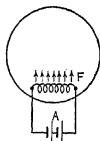

FIG. 170. Electrons are boiled off the surface of a heated filament.
93. The Two-Electrode Vacuum Tube. When one of these electrical conductors such as a tungsten wire is heated, electrons boil off its surface much as steam boils from the surface of hot water. In the latter case, if the receptacle containing the hot water is entirely closed so that none of the steam can escape, the particles will have to return to the water. If, on the other hand, a pipe allows the particles of steam to escape from the chamber as fast as they are boiled off, a current of steam continually flows from the surface of the water. In a very similar way, a filament *F*, Fig. 170, heated by an electric current from battery *A* boils off electrons into the surrounding space and if these are not removed from the vicinity of the filament, the greater number of these negative particles of electricity return to the filament. If, on the other hand, a plate *P* is brought near the filament